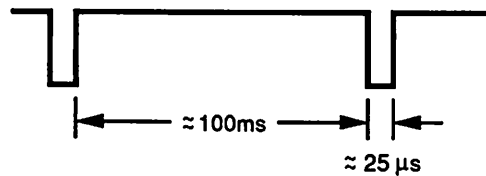

FIGURE 3-4. $\overline{\text{NMI}}$ WAVEFORM
1. U4 pin 2 is pulsing as shown in Figure 3-4.